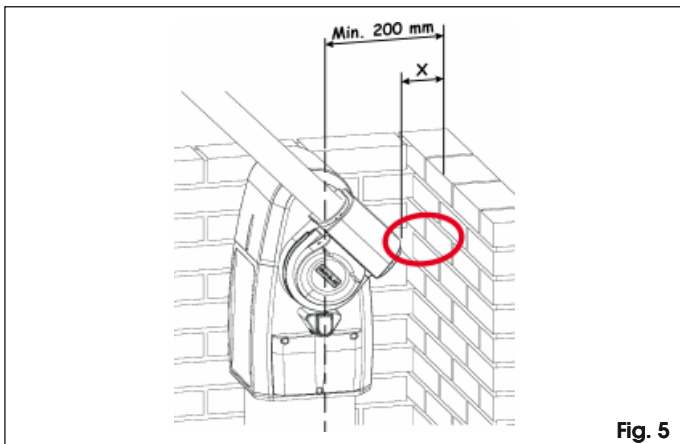

Fig. 5
- check if the minimum manoeuvring spaces, as shown in Fig. 5, are respected
If dimension "X", indicated in Fig.5, is less than 500 mm, the indicated zone **MUST BE** protected by a protection device conforming to standard UNI EN 12978.